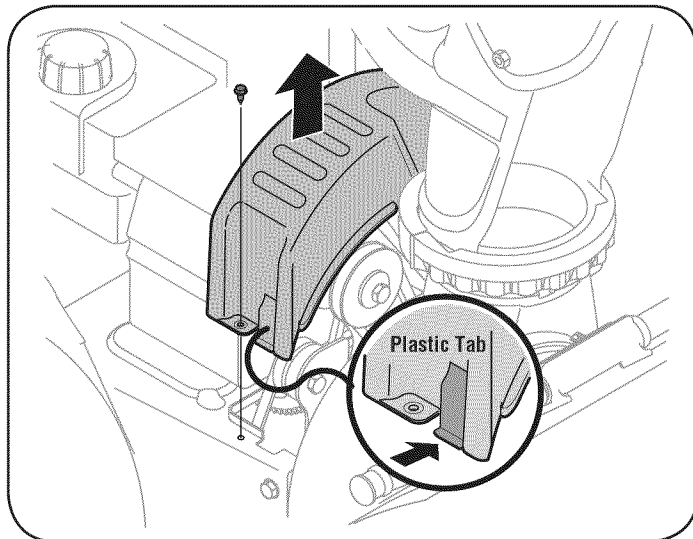

Figure 17
3. Remove the self-tapping screw shown in Figure 17, and press the plastic tabs to release the belt cover. Pull the belt cover up and out from around the engine and chute assembly. Set it aside and save.